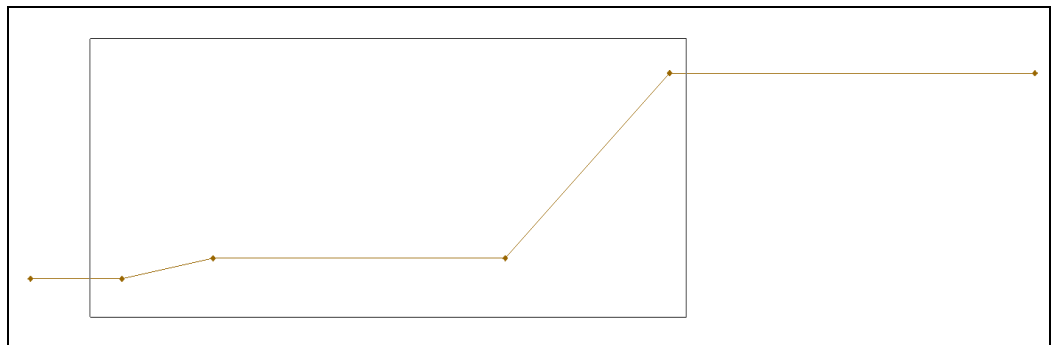

Figure 4 Selecting the interior nodes by dragging a box
2. Drag a box around the four middle nodes, as shown in Figure 4 below.